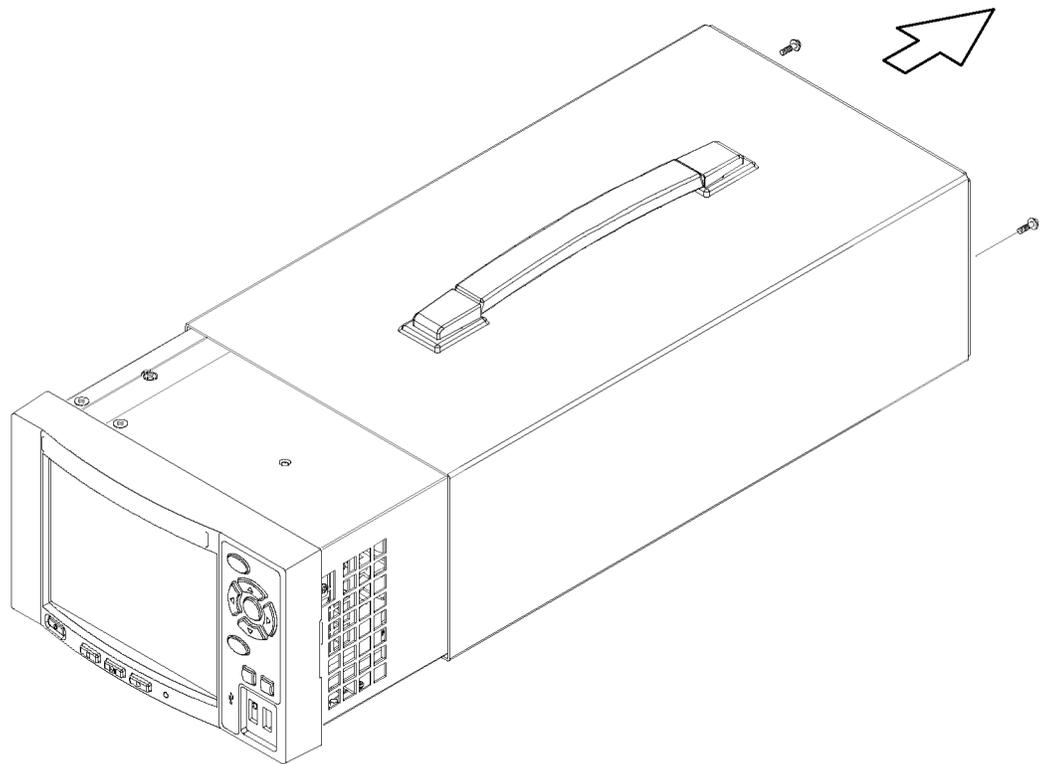

Figure 3-5: Cabinet removal
3. Use a screwdriver with a T15 TORX tip to remove the two screws securing the cabinet to the MTX100B. (See Figure 3-5.)